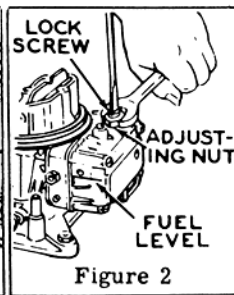

Figure 2
- Float Adjustment — Parallel Type 2.** (See figure 2.) With float bowl upside down, loosen lock screws and rotate adjusting nut until the bottom of float is parallel to bottom of fuel bowl.